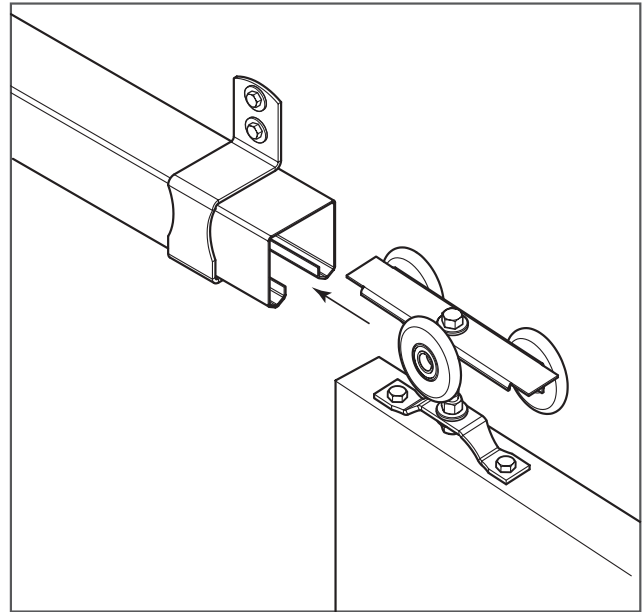

Figure 10
12. Carefully slide the hangers into the box track, ensuring the front wheel aligns with the front track gutter (Figure 10).